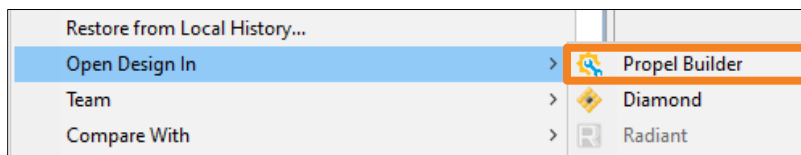

Figure 3.14. Project Explorer Popup Menu
- Right-click the SoC project from **Project Explorer**. Choose **Open Design In** > **Propel Builder** from the popup menu (Figure 3.14).